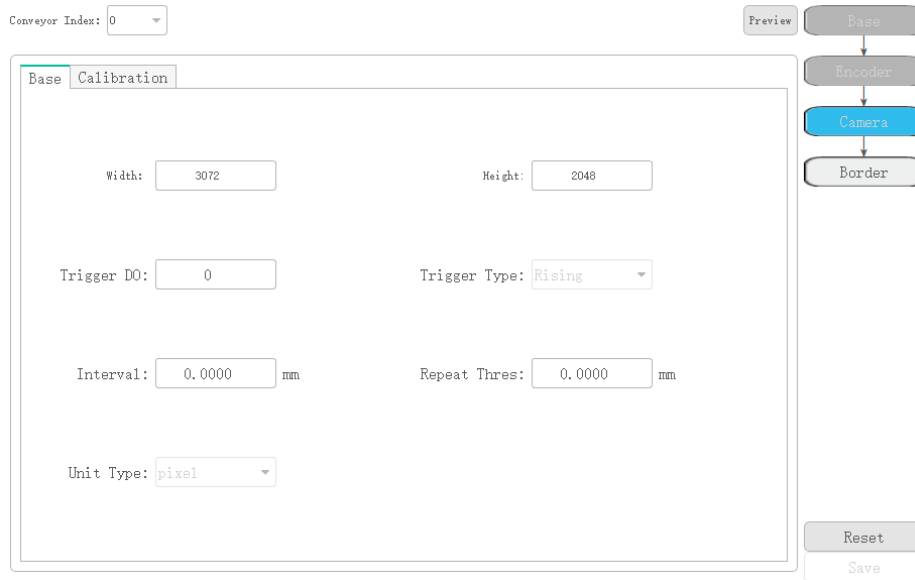

Figure 3.15 Vision system calibration page
Step 5 (Optional) Click **Camera** to calibrate the vision system, as shown in Figure 3.15.